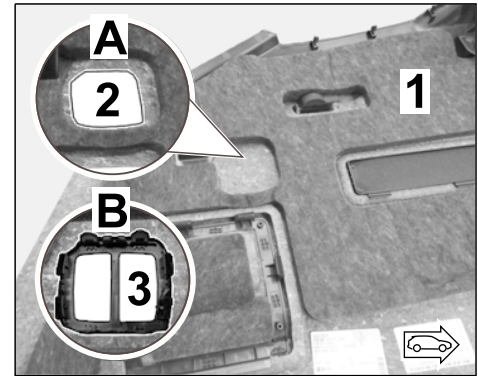

Figure 24
3.6.2 Carefully make a cut-out at the marking (⇒ Figure 24 -A-).
3.6.4 Clip trim for switch into side trim panel (note installation position of –side guide– ⇒ Figure 24 -B-).